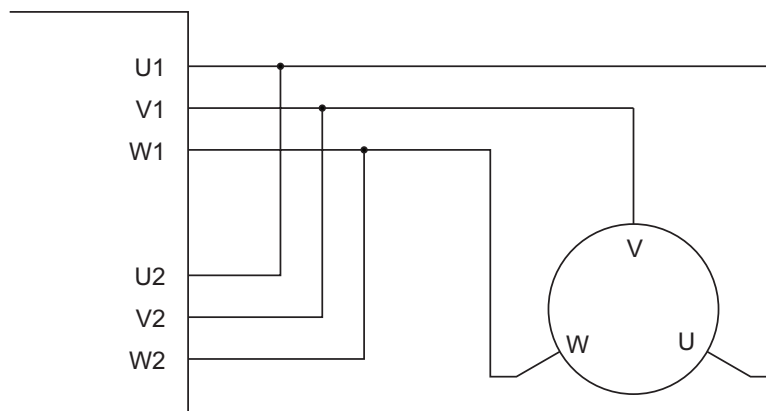

FIGURE 3. Single Channel Wiring Diagram
On the Single Channel SBL23xxS, each of the motor wires must be connected to both output terminals of the same letter as shown in Figure 3, below. Use the Encoders and/or Hall sensors of Channel 1 for operation.
**The wiring shown in Figure 3 must be done only on the single channel version of the controller. Paralleling the wires on a dual channel product will cause permanent damage. Verify that your controller is an SBL2330S or SBL2360S before you wire in this manner.**